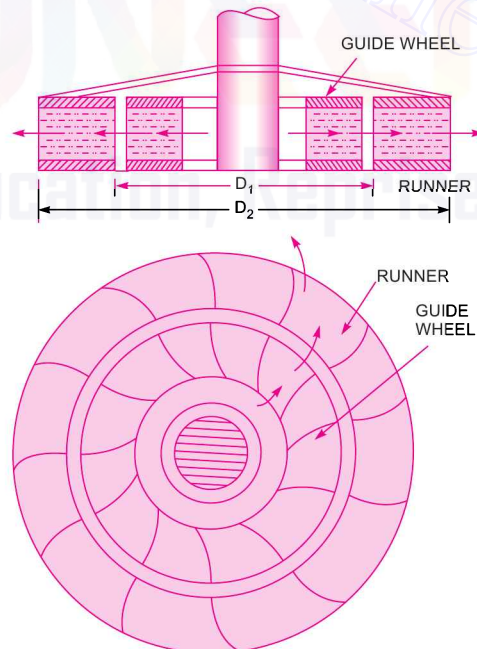

Fig. 18.18 Outward radial flow turbine.
**18.7.5 Outward Radial Flow Reaction Turbine.** Fig. 18.18 shows outward radial flow reaction turbine in which the water from casing enters the stationary guide wheel. The guide wheel consists of guide